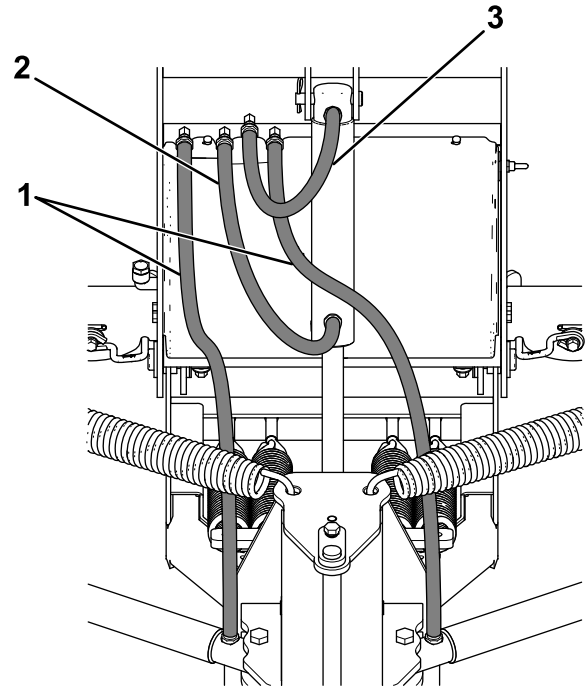

Figure 14
- Remove the plug on the upper fitting on the lift cylinder (Figure 14).
- Using thread compound, install the 39 cm (15-1/2 inch) hydraulic hose to the upper fitting on the lift cylinder (Figure 14). Turn the fitting until it is finger tight, then turn it 2 to 3 more times.
- Connect the free end of the hydraulic hose to the rear fitting on the hydraulic shelf (Figure 14). Turn the fitting until it is finger tight, then turn it 2 to 3 more times.
- Install the 45 cm (18 inch) hydraulic hose to the middle fitting on the hydraulic shelf and the lower fitting on the lift cylinder (Figure 14). Turn the fitting until it is finger tight, then turn it 2 to 3 more times.
6. Install the O-ring end of the 106 cm (42 inch) hydraulic hose to the port on the right angle cylinder and the other end to the right fitting on the hydraulic shelf (Figure 14). Turn the fitting until it is finger tight, then turn it 2 to 3 more times.